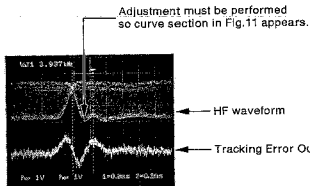

Figure 11
- Push the POWER button to switch the power on and PLAY the first item on the test disc, and the push the PAUSE button. Now observe the waveforms for HF and TE with triggers applied from test terminal TRHD. At this point, adjust (R281/R282) so that a kick pulse waveform of about 1 to 1.3 tracks as shown in Figure 11 below is obtained.